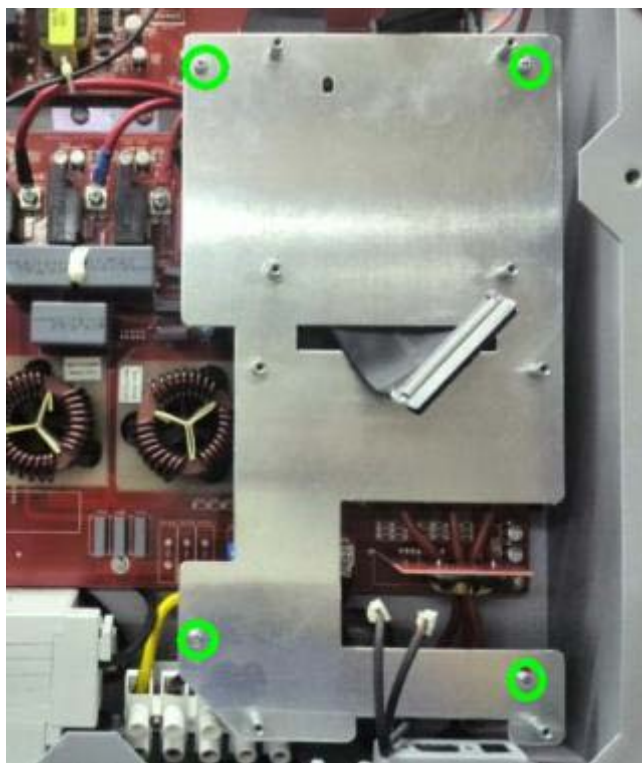

Fig.4.5.1
- 4) Screw off 4 screws on metal panel as Fig.4.5.1 and remove metal panel.